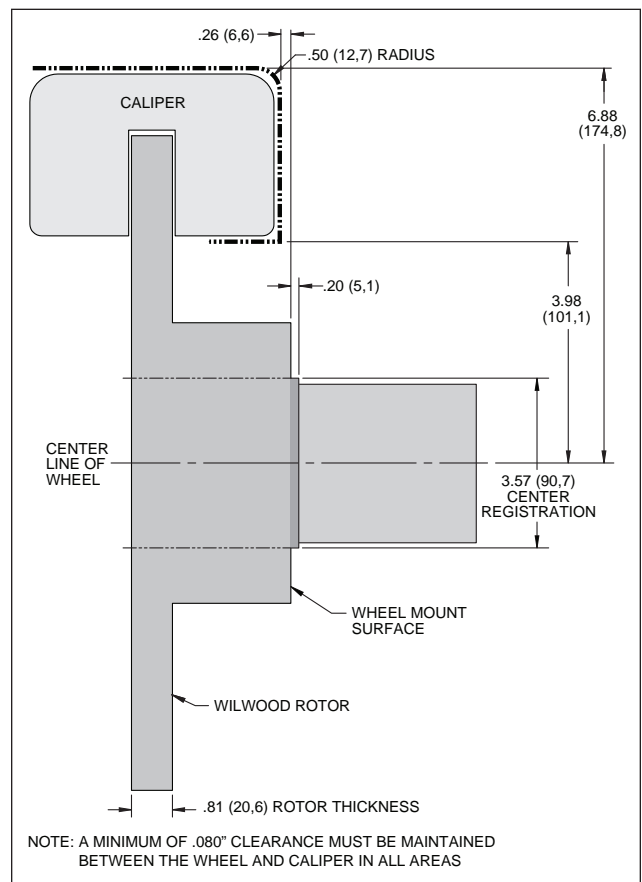

Figure 2. Wheel Clearance Diagram
- Review the Wheel Clearance Diagram (Figure 2, page 3) to verify that there is adequate clearance with the wheels you will be using with the installation.
- Verify your wheel clearance using Figure 2.
- **CAUTION:** Wheel fitment to OEM hub interference must be checked. There is a 3.57" diameter step on the hub face that was used to register the old brake drum (Figure 2). Be sure your wheel fits flush against the hub face. If the step interferes, you will need to use a wheel spacer (customer supplied) to clear the step.
- Install the disc brake pads (12) into the caliper, with the friction material facing the rotor (6), Photo 7, and secure in place using the pad clip retainer (13), Photo 8.
- Temporarily install the wheel and torque the lug nuts to the manufacturer's specification. Ensure that the wheel rotates freely without any interference. **CAUTION:** Wheel fitment to OEM hub interference must be checked. There is a 3.57" diameter step on the hub face that was used to register the old brake drum (Figure 2). Be sure your wheel fits flush against the hub face. If the step interferes, you will need to use a wheel spacer (customer supplied) to clear the step.
- **NOTE:** OEM rubber brake hoses generally cannot be adapted to Wilwood calipers. The caliper inlet fitting is a 1/8-27 NPT. Install Wilwood's stainless steel braided flexline hose kit (14), P/N 220-13319 included with this kit, Photo 9. **Carefully route hoses to prevent contact with moving suspension, brake or wheel components.** **NOTE:** Wilwood hose kits are designed for use in many different vehicle applications and it is the installer's responsibility to properly route and ensure adequate clearance and retention for brake hose components.